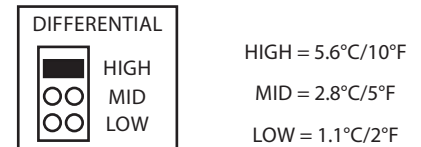

Figure 7
- Pull at least six inches of control wire into the enclosure, then complete the wiring connection according to the wire diagram for the applicable power supply as shown in Figure 7.
- Connect the DC positive or the AC voltage hot side to the PWR terminal. The supply common is connected to the COM terminal. See Figure 7.